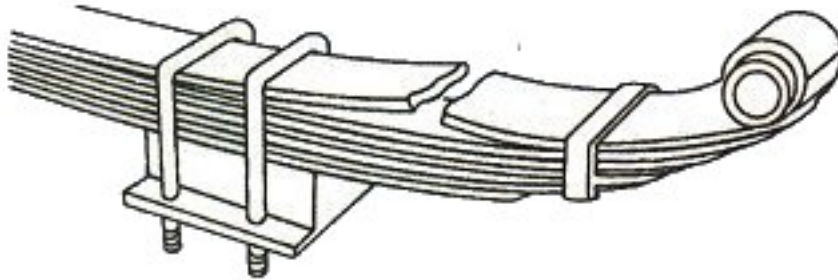

Figure 2-3
- Missing or broken leaves in any leaf spring. If one fourth or more are missing, it will put the vehicle "out of service" but any defect could be dangerous (Figure 2-3).